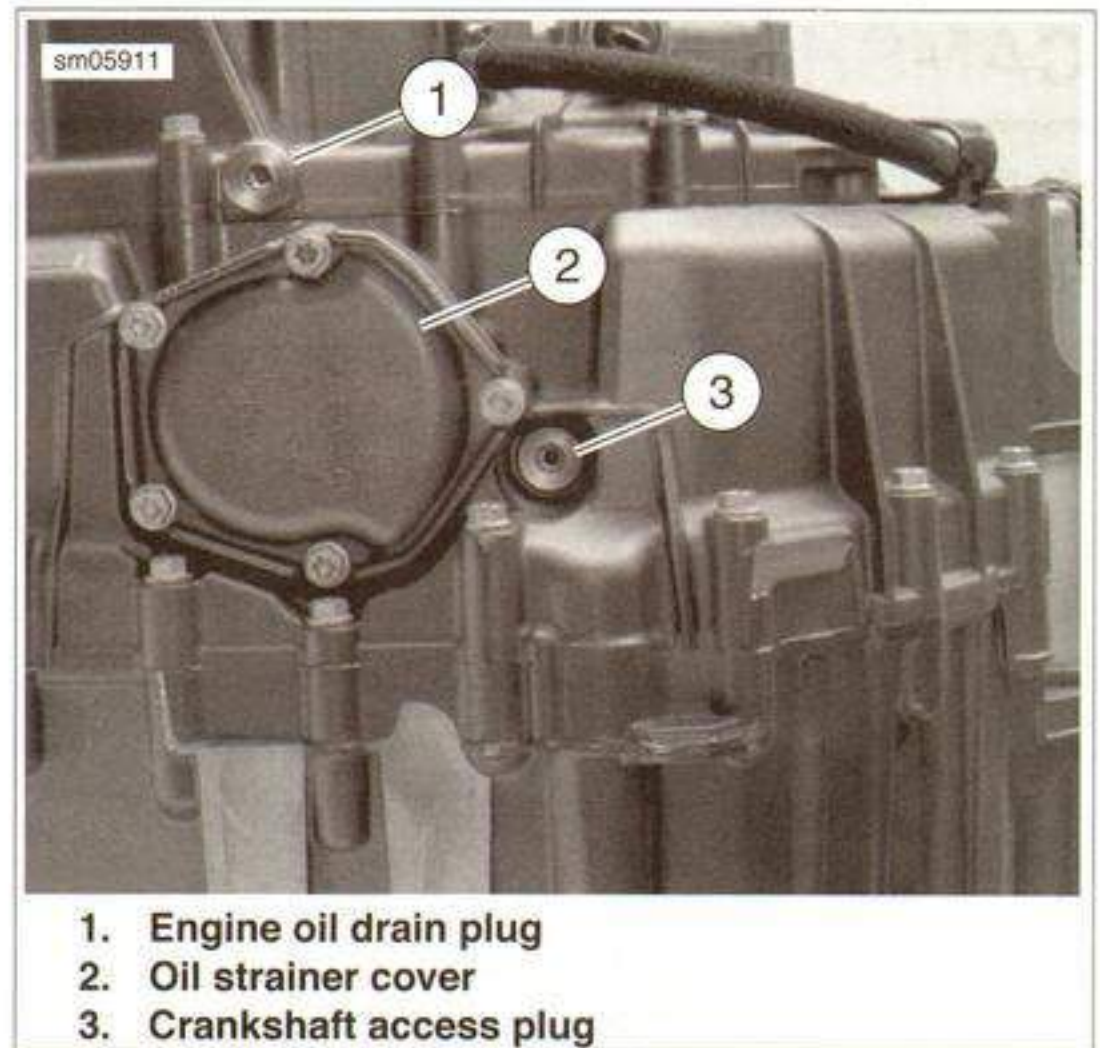

Figure 3-60. Crankshaft Access Plug
6. See Figure 3-60. Remove crankcase access plug (3).